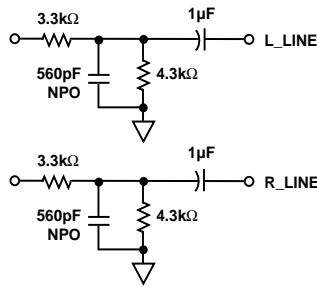
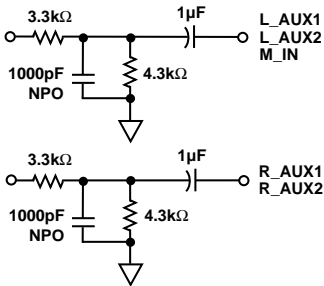

Figure 25. 2 V rms Line-Level Input Circuit for LINE Inputs
Figure 26. 2 V rms Line-Level Input Circuit for M\_IN and AUX Inputs
The AD1845 Stereo Codec has been designed to require a minimum of external circuitry. The recommended circuits are shown in Figures 25 through 33.
A circuit for 2 V rms mono, line-level inputs and auxiliaries is shown in Figure 25 and Figure 26. Note that this is a divide-by-two resistive dividers considering the codec input impedance. The input resistor and 560 pF (1000 pF) capacitor provides the single-pole of antialias filtering required for the ADCs. If line-level inputs are already at the 1 V rms levels expected by the AD1845, the resistors in parallel with the 560 pF (1000 pF) capacitors can be omitted. If the application does not route the AUX2 inputs to the ADCs, then no antialias filtering is required (only the 1 μF ac coupling capacitor).
2. The AD1845 requires the input antialiasing filters for the ADCs (refer to Figures 25 and 26). The CS4231 can use the same filters with no degradation in performance. For compatibility it is suggested that the filters be added.